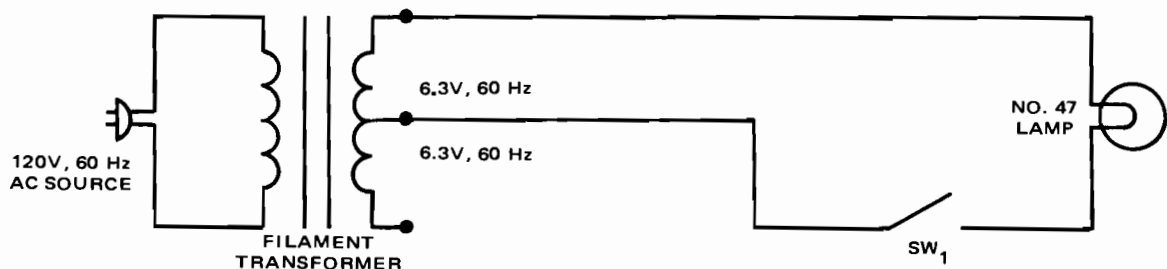

Fig. 9-2-1
1. Construct lamp test circuit shown in Fig. 9-2-1.